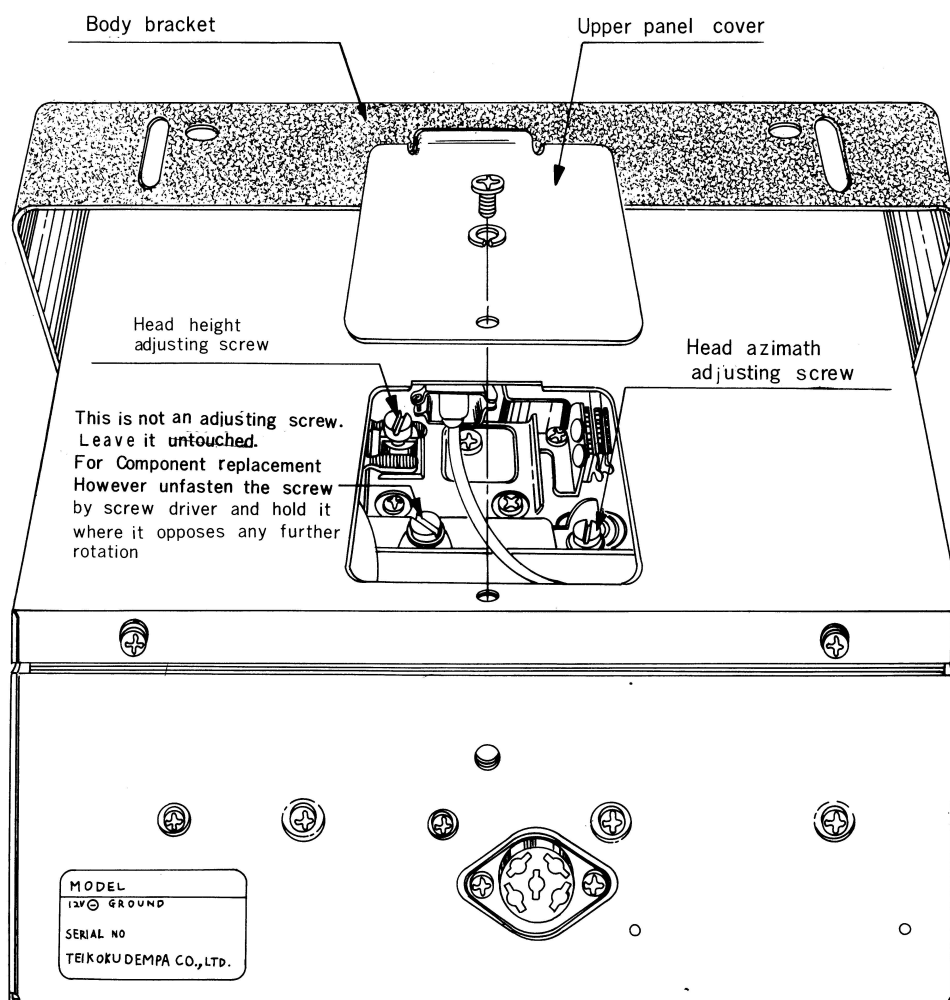

Fig. 6
- Head height and azimuth adjustments are performed with the upper cover of the case top removed. (The body case need not be removed.) (Refer to Fig. 6.)